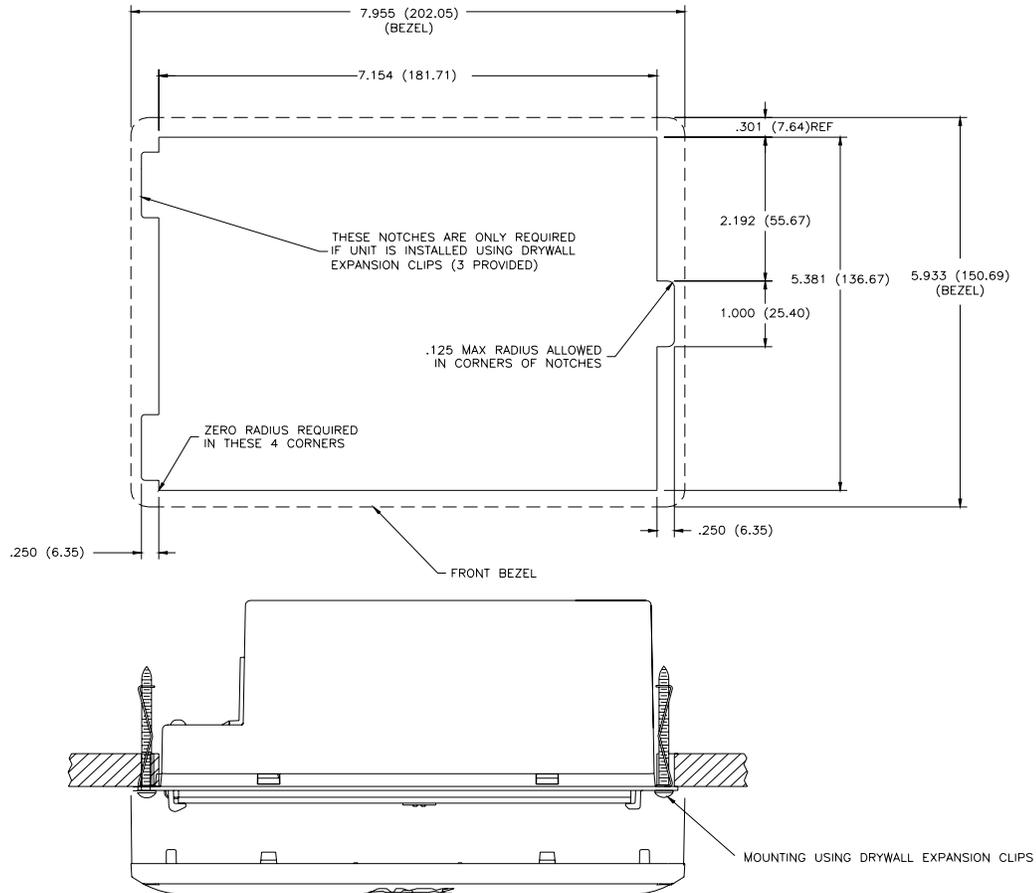

FIG. 36 NXD-CV7 Wall Mount panel dimensions using expansion clips
- Refer to **SP-2258-01** for detailed installation dimensions (reproduced in FIG. 36).
2. Cut out the surface for the NXD Wall Mount unit using the dimensions shown in FIG. 36. Be sure to cut out the three notches along the sides to accommodate the three corresponding drywall expansion clips (included).